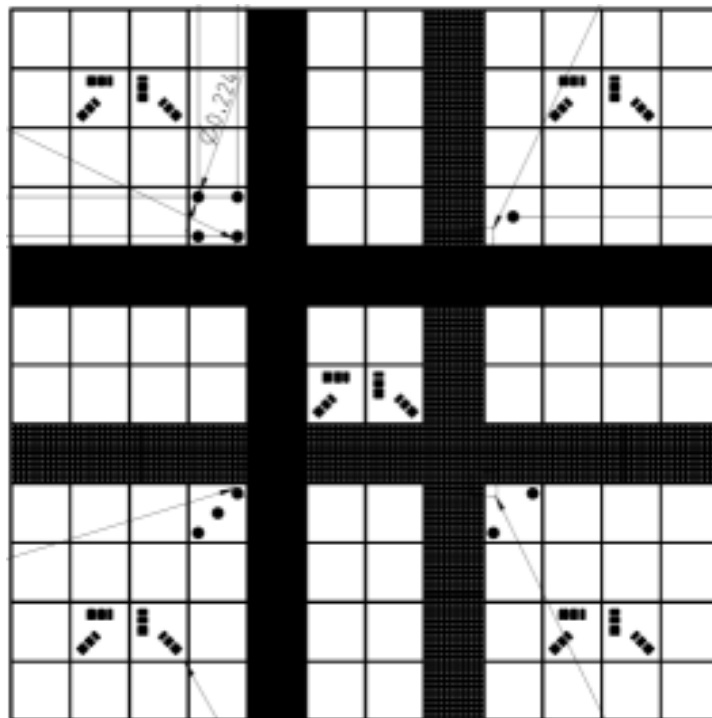

Fig. 4 Calibration objective
- Calibration objectives with other samples than shown in Fig. 4 shall not be used. The cap with the calibration sample can be obtained separately under SAP-No. 420639-9900-700.